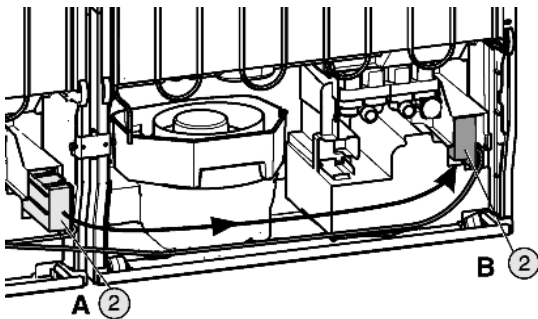

Fig. 13
- ▶ Remove the bus connection module *Fig. 13 (2)* from the transport position of the refrigerator **A** by pressing the side snap catch to the right, and transfer the module to the corresponding position on the freezer **B**. The catch must snap into place audibly.